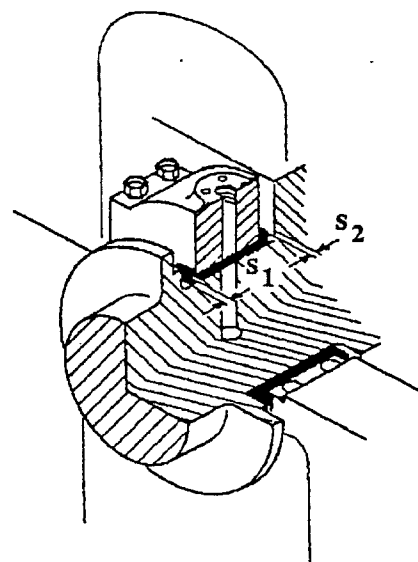

Fig. 1
- 1.4 Measure the end clearance "s" (only at locating bearing, fig. 1).